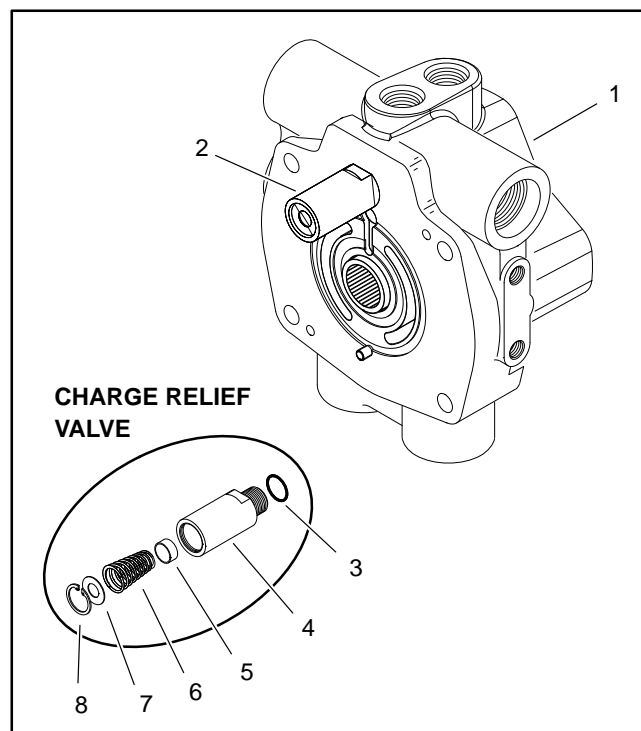

Figure 49
**NOTE:** The charge relief valve is attached to the piston pump back plate (Fig. 49). The back plate must be removed to service the relief valve.
**IMPORTANT:** The shim kit (item 7) is used to replace the original crush ring (not shown) in the cover plate (item 25). If the camplate (item 10), cover plate (item 25) or housing (item 29) is replaced during servicing, the old crush ring must be replaced. See Piston Pump Crush Ring Replacement in this section in conjunction with the piston pump service manual at the end of this chapter.